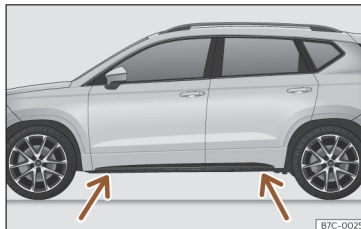

Fig. 35 Jack position points.
- Find the support point on the strut (sunken area) closest to the wheel to be changed >>> **Fig. 35**.